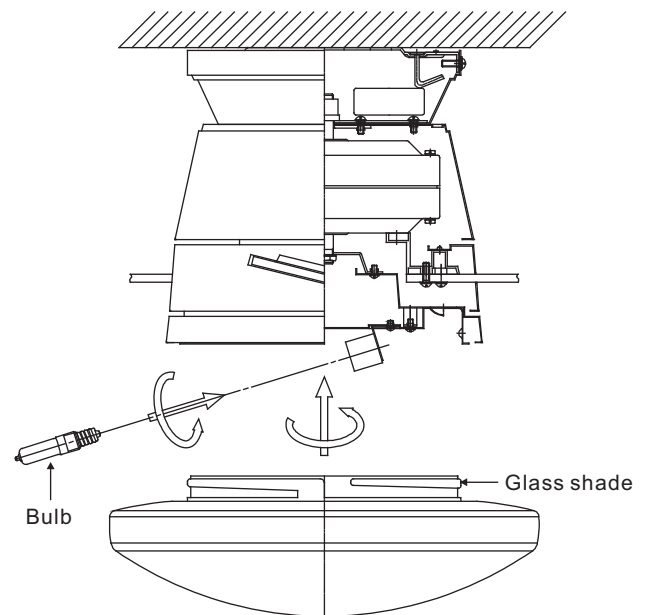

Figure 14
Step 2. Raise glass shade up against the mounting plate and secure it to fan by turning glass clockwise until snug. Do not overtighten. (Fig. 14)